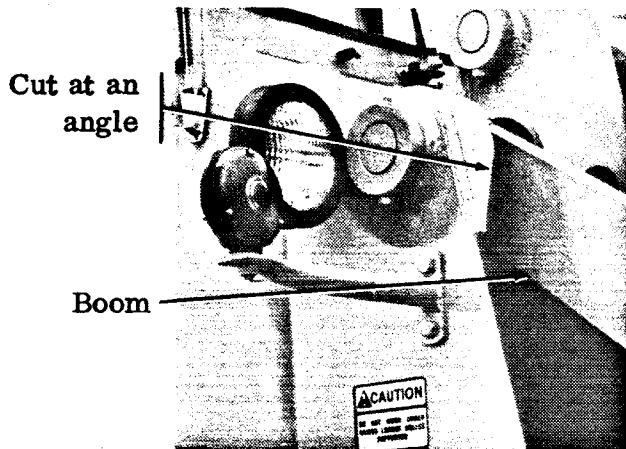

Figure 1
1. Position the valve bank bracket under the dash on the right hand side (Figure 1). Drill two 3/8" dia. holes through the bracket and dash. Bolt the bracket into position. The bracket must be positioned so the valve handles are toward the seat.